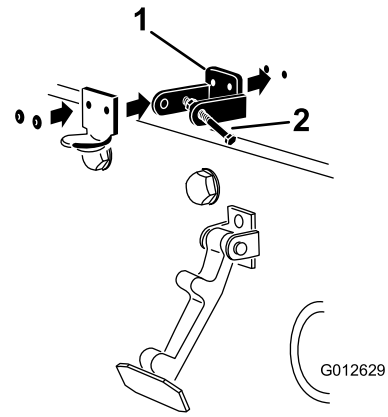

Figure 4
3. While aligning the mounting holes, position the CE lock bracket and the hood latch bracket onto the hood. The lock bracket must be against the hood (Figure 4). Do not remove the bolt and nut assembly from the lock-bracket arm.
5. Rivet the brackets and the washers to the hood (Figure 4).